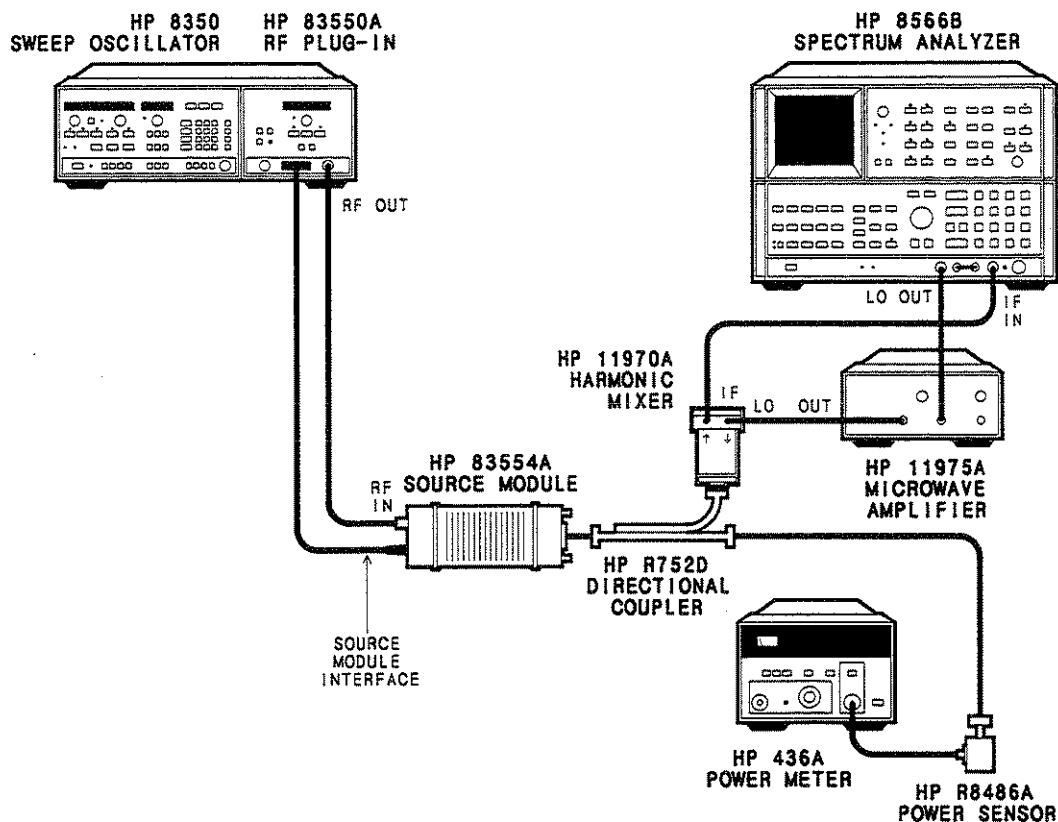

Figure 3-7. Multiplier 3/2 Harmonic Signals Typical Test Setup
The RF output signal from the source module is tuned from 26.5 to 27.0 GHz and 3/2 harmonics are displayed on a spectrum analyzer to verify that any harmonic spurious signals are at or below their specified levels. The test configuration in Figure 3-7 uses an external harmonic mixer to extend the frequency range of the spectrum analyzer. When this technique is used, the response is not pre-selected and multiple signals are displayed. Each response is examined not only for power level, but whether or not the signal is truly in band by using the spectrum analyzer's signal identification function.
1. Connect the equipment as shown in Figure 3-7. Turn on all system components.
Because the test configuration in Figure 3-7 specifies that the external mixer be connected to the coupled arm of a 20 dB directional coupler, the coupled power must also be taken into account when calculating reference level offset. The new equation is as follows: